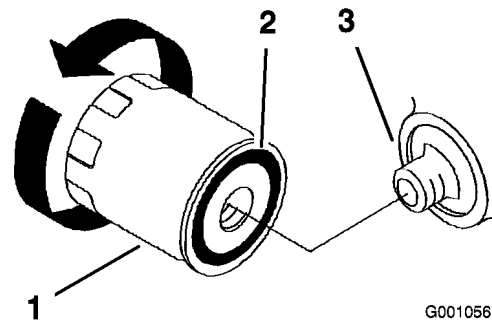

Figure 35
- Remove the old filter and wipe the filler adapter gasket surface (Figure 35).
- Apply a thin coat of new oil to the rubber gasket on the replacement filter (Figure 35).
- Install the replacement oil filter to the filter adapter, turn the oil filter clockwise until the rubber gasket contacts the filter adapter, then tighten the filter an additional 2/3 to 1 turn (Figure 35).